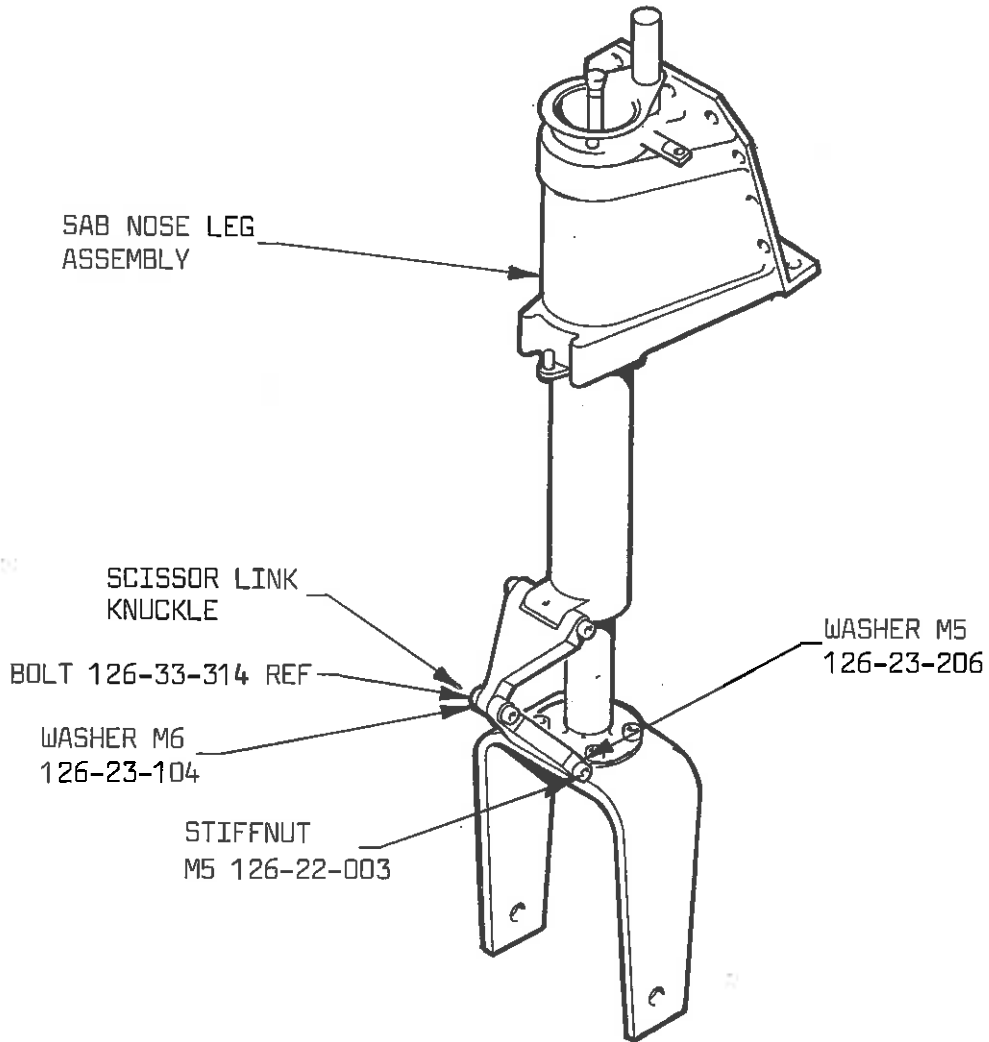

FIG 1
1. Inspect for effective locking feature on stiffnut 126-22-003 ref Fig. 1. Effectivity can be established by simply trying to thread stiffnut down bolt by hand. If stiffnut can be threaded its full length, then stiffnut is to be replaced by new item.
Add 126-22-003 M5 Stiffnut in lieu of 126-35-244; 1 off M6 washer 126-23-104 and 1 off M5 washer 126-23-206 in lieu of washer 2 off (IPC Index No. 30, Chap 20, Page 7). IPC Fig 2 to be amended as annotations on SB Fig. 1.